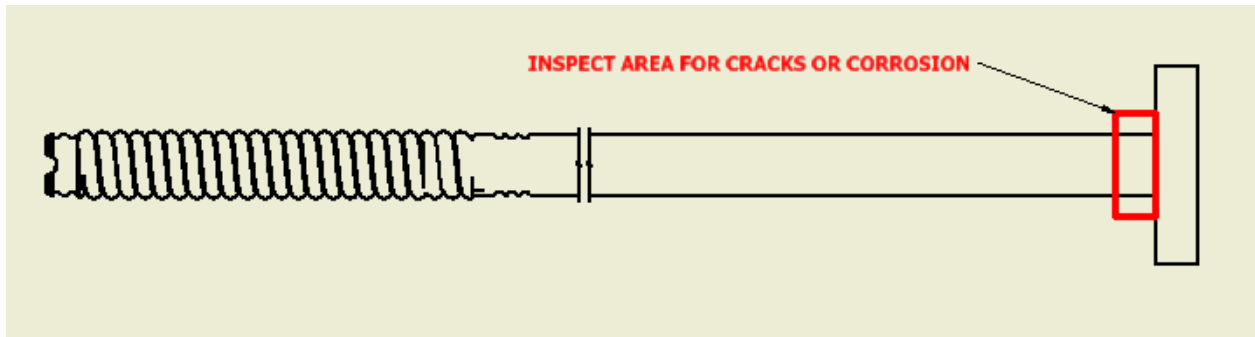

FIGURE 1: INSPECTION AREA
4. Inspect a two inch area of the tube beneath the flange for stress cracks (area shown in FIGURE 1). Stress cracks typically form where the flange meets the tube on the underside due to heightened mechanical stresses from general use.
4. Inspect a two inch area of the tube beneath the flange for stress cracks and chemical attack (area shown in FIGURE 1). Chemical attack will present itself as excessive whitening. Stress cracks typically form where the flange meets the tube on the underside due to heightened mechanical stresses from general use.